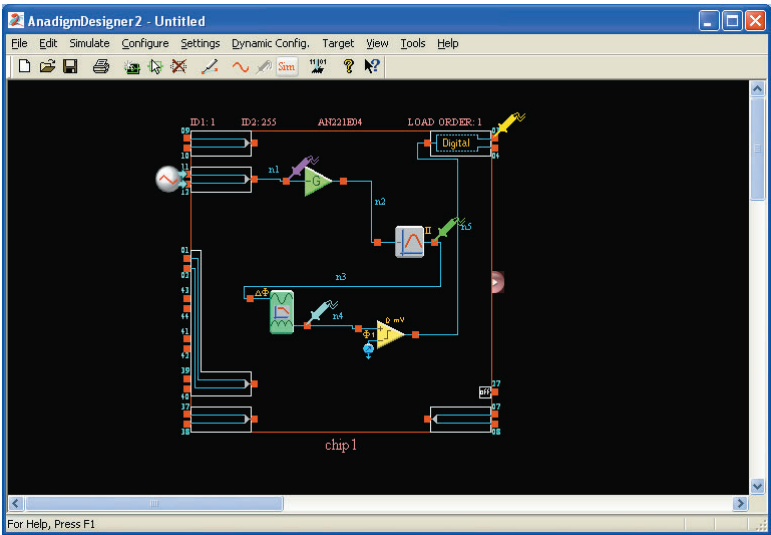
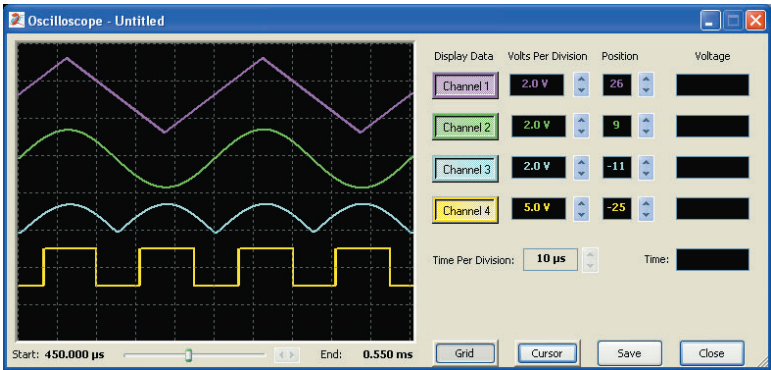

FIGURE 14
FIGURE 15
**Simulation of the Design** A 20 kHz, 2 V triangular wave input signal is used to check the circuit. The probes are placed as shown in Figure 14 and the simulation is run. Although the input is not an AMI type signal, the alternating triangular wave shows that the rectifier output is triggering the comparator at a reference voltage of 1 V to produce a digital output, as shown in Figure 15. The color of each signal corresponds to the color of the probe to identify the points being measured.
Waveforms for the circuit in Figure 14.